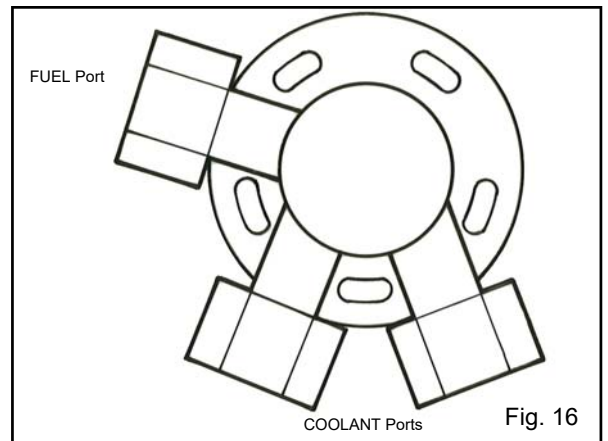

Fig. 16
25. Connect the original fuel line to the FUEL port on the "Hot Fox". See Fig. 16.
26. Obtain hot coolant from a pipe plug opening on the engine pressure side of the cooling system. Route the coolant to either COOLANT port on the "Hot Fox". See Fig. 16.
30. Before operating the unit, **re-check carefully** that the fuel line is connected to the FUEL port on the "Hot Fox", and the coolant from the engine is connected to the COOLANT ports. See Fig. 16.